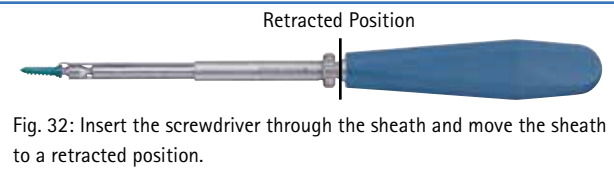

Fig. 32: Insert the screwdriver through the sheath and move the sheath to a retracted position.
- To remove a free spinning screw, insert the ABC2 screwdriver (Cat No. FJ910R) through the sheath of the free spinning screw removal tool and move the outer sheath to a retracted position (Fig. 32).